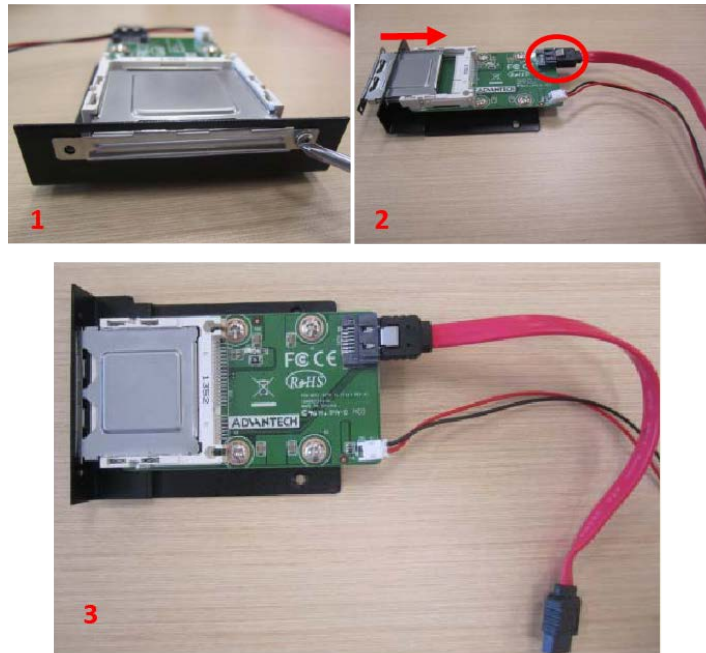
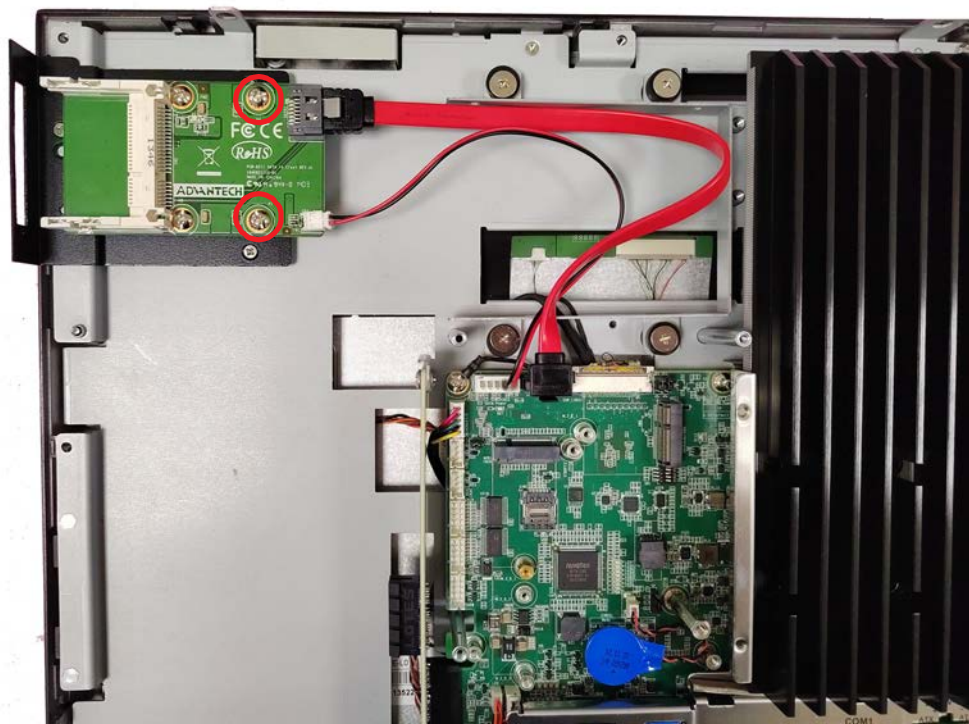

Figure 2.36
Figure 2.37
- Retrieve the CFast module card from the module case and remove the two screws located at the side (1) of the metal tray. Affix the CFast card to the underside of the metal tray. Then insert the tray in the direction shown in Fig.2.36 (2) and connect the red SATA cable (3). The assembled CFast module should appear as shown in Fig. 2.37.